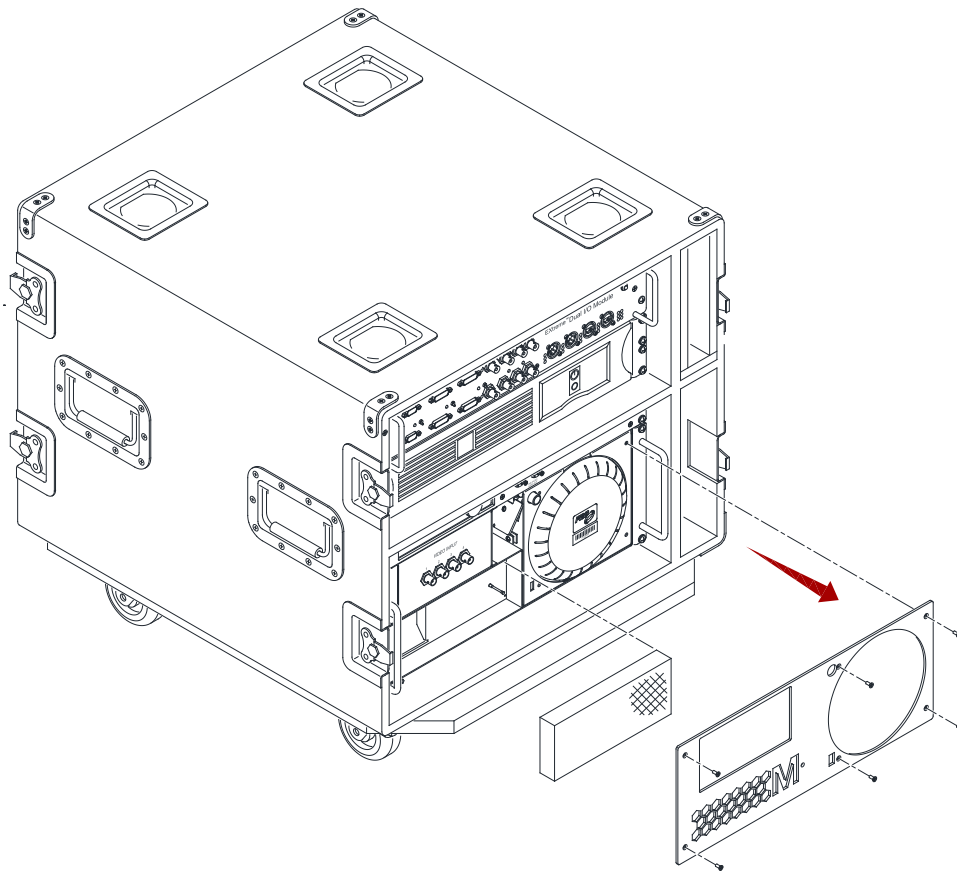

Figure B-1: Air Filter Removal
- Step 3. At the front of the rack, remove the front panel. Refer back to “Figure B-1: Air Filter Removal” on page 36.
- Step 3. At the front of the rack, remove the front panel and air filter. Refer back to “Figure B-1: Air Filter Removal” on page 36.